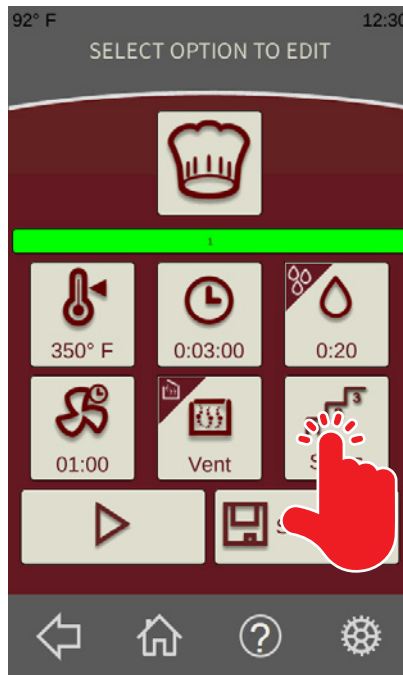

Fig. 25
1. From the **Standard Recipe Run Screen** (Fig. 25), touch the Steps button to add additional steps to a recipe. The **Recipe Steps Screen** should be displayed.